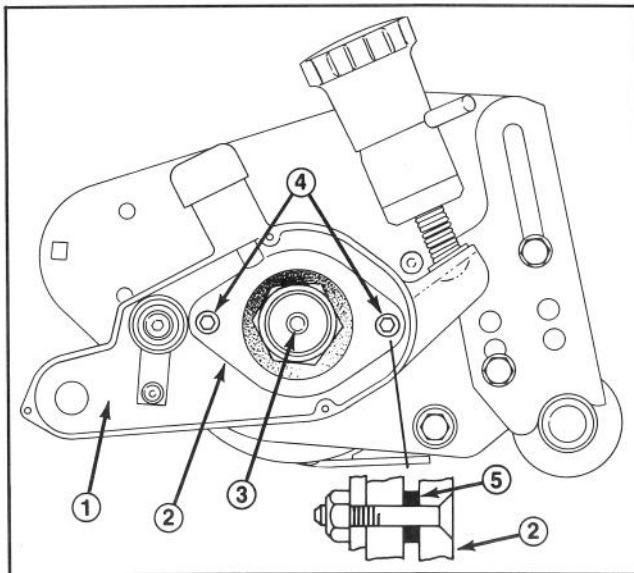

Figure 8
- C. Insert the flat head screws (3/8-16 UNC x 1.75") through the bearing adapter and then put a spacer over each screw before positioning the adapter into the reel bearing housing (Fig. 8 & insert). Slide bearing adapter
through the bronze bearing in the assembly and into the reel bearing housing (Fig. 8). Secure adapter with flat head screws (Fig. 8) and torque the screws to 17 to 21 ft. lbs. Install lock nuts onto the inside of the flat head screws and torque to 23 to 27 ft. lbs.